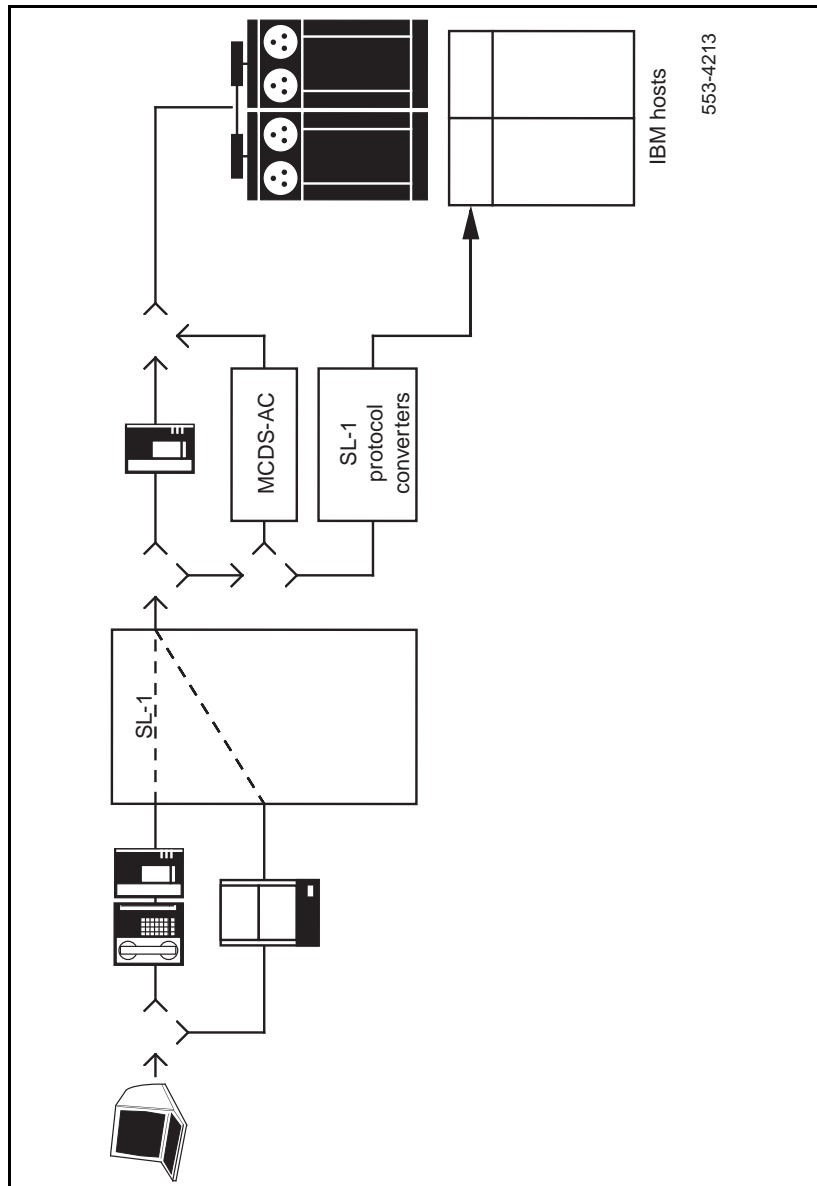

Figure 3
- Terminal to Remote Device applications involve the use of a modem pool to access analog lines for external data communications. The Meridian 1 permits external data calling on facilities also used for voice communications, such as WATS, FX and TIE lines (Figure 3).